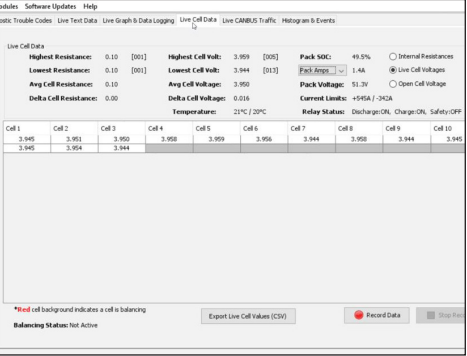

fig. 7 – Orion BMS Jr connection software Live Cell Data report.
- After connecting to the BMS, click "Live Cell Data" in the Orion software. (fig. 7)